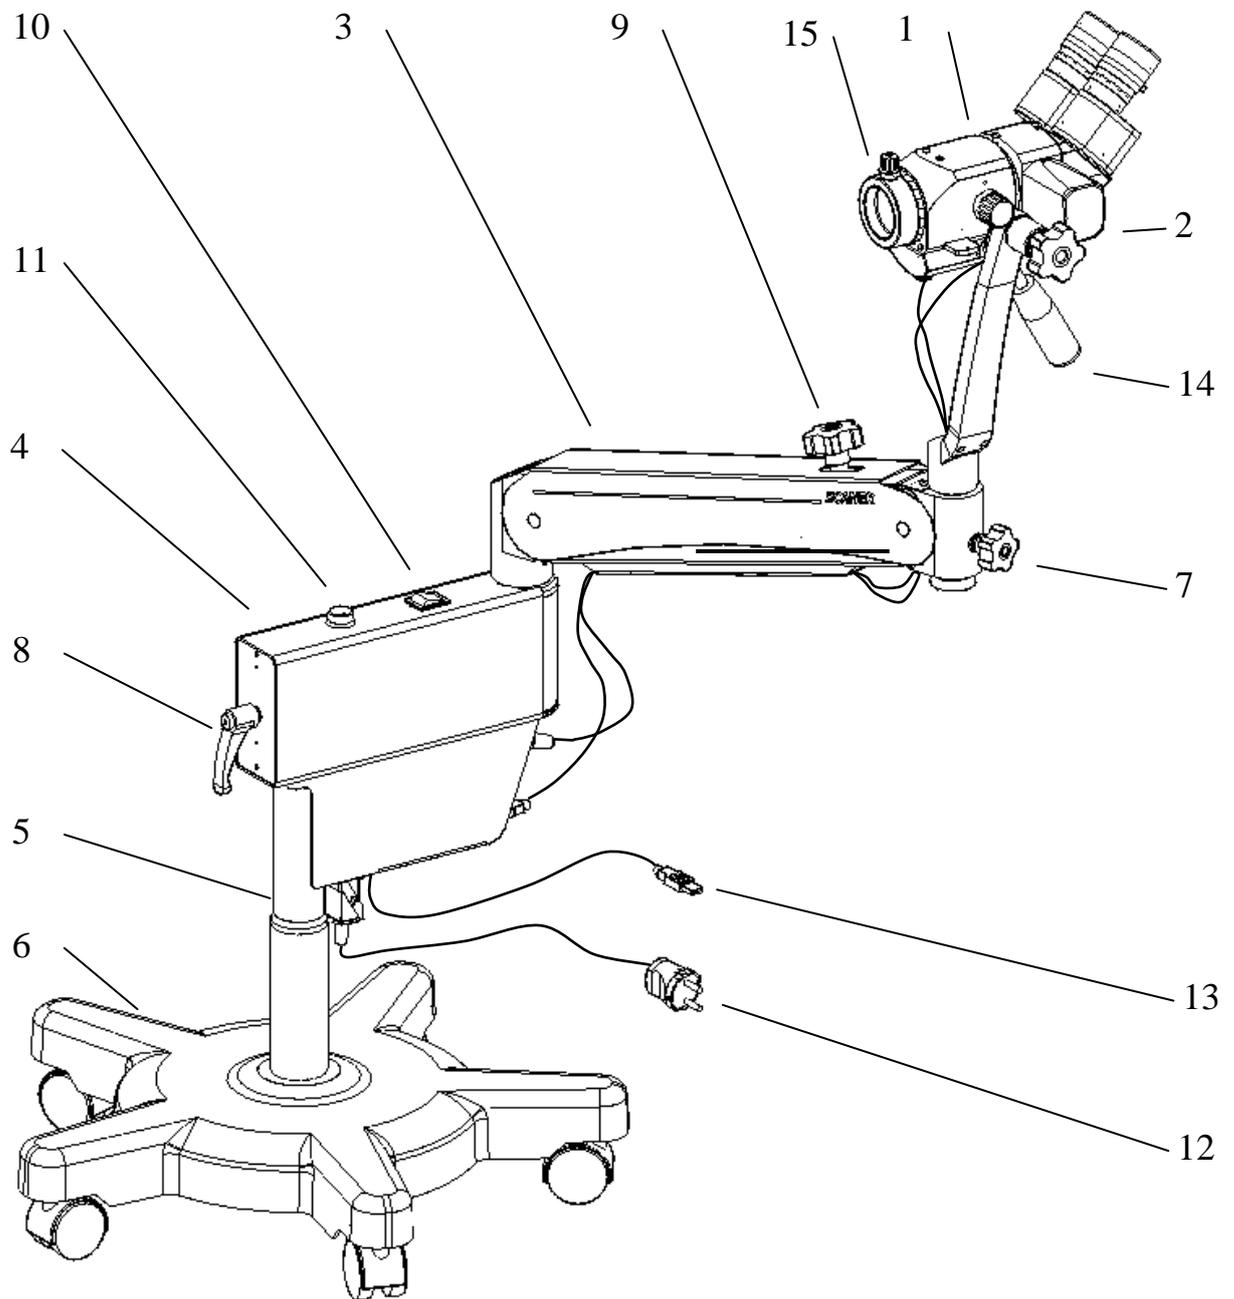
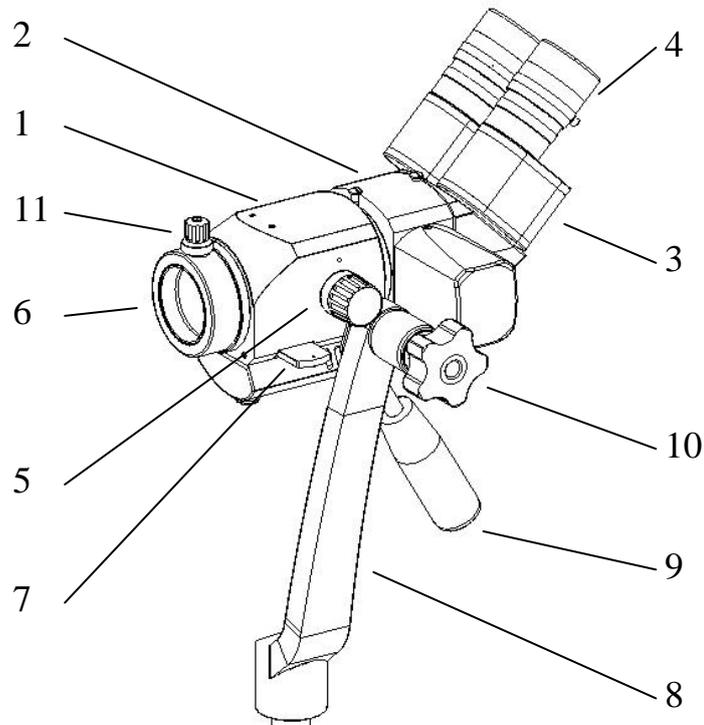
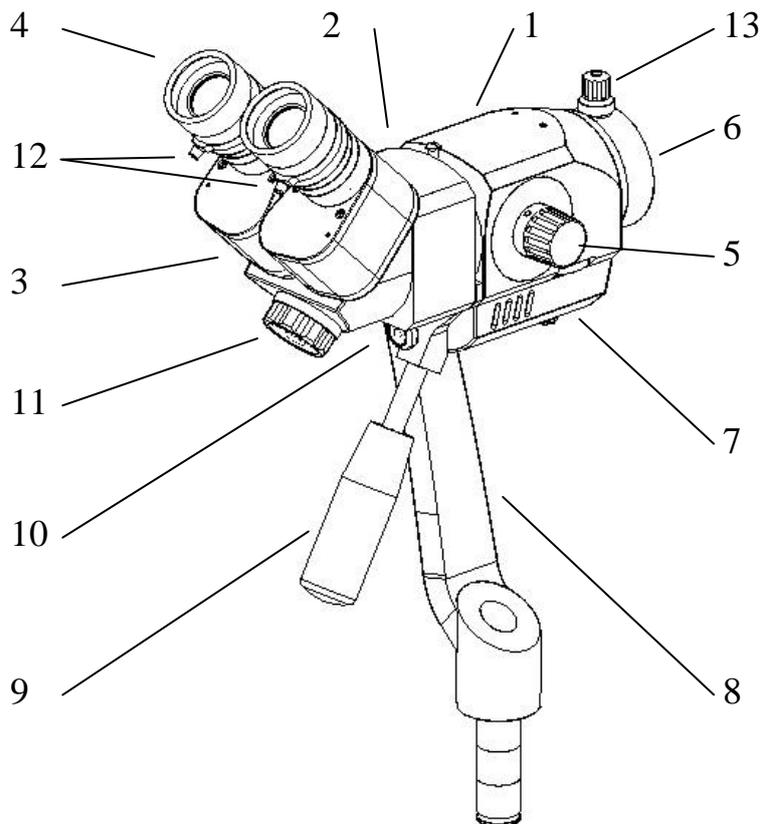

Figure 1 – Colposcope MK-200 overview.
Figure 2 – Head of the colposcope MK-200.
Figure 3 – Head of the colposcope MK-200.
**Colposcope** (fig. 1) consists of a colposcope head 1, a pantographic detached lever 3, a power unit 4 and a floor stand 6 (load and wheeled support).
**Colposcope head** (fig. 2) consists of an optical head 1, video system 2, binocular attachment 3, s system of the lens fine focus 6, a coaxial light unit 7 (fig. 3) and a bracket 8. The optical head includes a cylinder for optical change of magnification (Galileo optical systems), a fine focus lens and a light filter input mechanism. A switch 7 (fig. 2) is used to put the light filter in and out.
**Video system of the colposcope** 2 (fig. 3) includes a digital camera, a photo shoot button 10 and a cable 13 for computer connection (fig. 1). Video adapter consists of a light-splitting device, a prism turning system and a lens. The video system is installed between the optical head and the binocular attachment of the colposcope without impairing the optical characteristics of the device. The video system uses a digital camera with resolution of 2 million pixels (see Appendix A for a detailed description of the video system).
**Binocular attachment** 3 (fig. 3) consists of a lens-prism unit with eyepieces and a device for interpupillary distance change 11 within the range 56 mm to 74 mm. Magnification of the optical system is changed with the help of handles 5. Dioptre adjustment of the eyepieces to the eyes of an operator within the range +5 dioptre to -5 dioptre is fulfilled using the dioptre rings 4.
**Fine focusing** is performed with the help of turning the handle 11 (fig. 2) at the lens 6 within the range of 12 mm, allowing to adjust the image sharpness in the plane on an object under investigation.
**Optical system of the lamp** 7 (fig. 3) creates a bright and evenly lit spot of light with distinct borders in the plane of investigation. Virtually unlimited life time of the lamp LED is ensured by highly stabilized power supply from the impulse AC/DC power unit. The power unit 4 (fig.1) possesses electronic protection from overload, overheating and short circuit.
**Changing the position of the colposcope head** 1 (fig. 1) in vertical plane is achieved with the help of the pantographic detached lever 3, and the handle 9 allows fixing the movement and adjusting the easiness thereof.
**Turning the optical head** 1 (fig. 1) around vertical axes is carried out relative to the pantographic detached lever 3, the power unit 4 and the stand pole 5. Handles 7 and 8 are used to slow down the device movement and fix it in the adjusted position. At the same time the handle 8 slows down the turning of the power unit 4 around the pole 5 and turning of the pantographic detached lever 3 in the power unit. The angle of the optical head in vertical plane is changed with the help of the handle 9 (fig. 2), the handle 10 helps to adjust the easiness of its movement.
**The lamp** gets power supply from the power unit of the colposcope on whose upper cover the switch 10 (fig. 1) and a handle 11 for adjusting the lamp brightness are situated. Below the power unit there are a USB cable 13 for computer connection and a network connector with a compartment for a fuse link with an attached power cord 12.
- 2) Connect the power cord 12 (fig. 1) to the mains.
- 4) Turn the eyepieces 4 (fig. 2) around their axes to adjust them according to the dioptré characteristic of the operator's eyes on the basis of the dioptré scale. Fix the position of the eyepieces with the help of the fixing screws 12 (fig. 3).
- 6) Put the colposcope head in the position suitable for operation using the handle 9 (fig. 2) and slowing down the movement or fixing the position with the help of the handles 10 (fig. 2), 7 and 8 (fig. 1).
- 7) Adjust the magnification of the colposcope turning the handles 5 (fig. 3).
- 8) Adjust the illuminance of the object using the adjustment handle 11 (fig. 1).
- 9) Make the image of the object in the eyepieces look sharp, for this purpose move the colposcope head using the handle 9 (fig. 3) and turning the fine focus handle 13 of the lens 6.
- 11) If necessary, turn on (turn off) the light filter using the switch 7 (fig. 2).